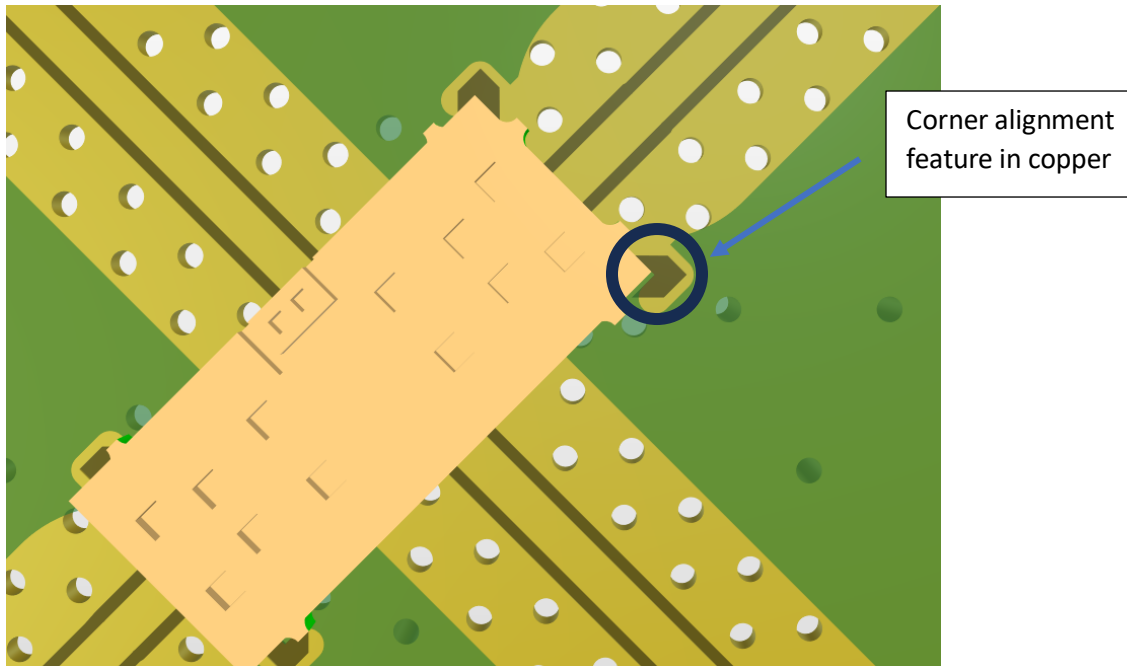

Figure 5 - Copper Alignment PCB Feature
3. Use copper alignment features instead of silkscreen. Generally speaking, the solder mask and copper alignment are much more accurate than silkscreen. Therefore, it can be beneficial to use copper alignment features on the board for optical inspection. An example is shown below in Figure 5.